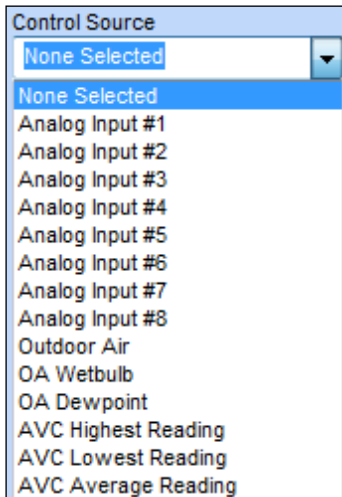

Figure 57: Control Source
The Control Source Options are as follows (Figure 57 below):
- Analog Outputs #1-4 (not shown in Figure 57)